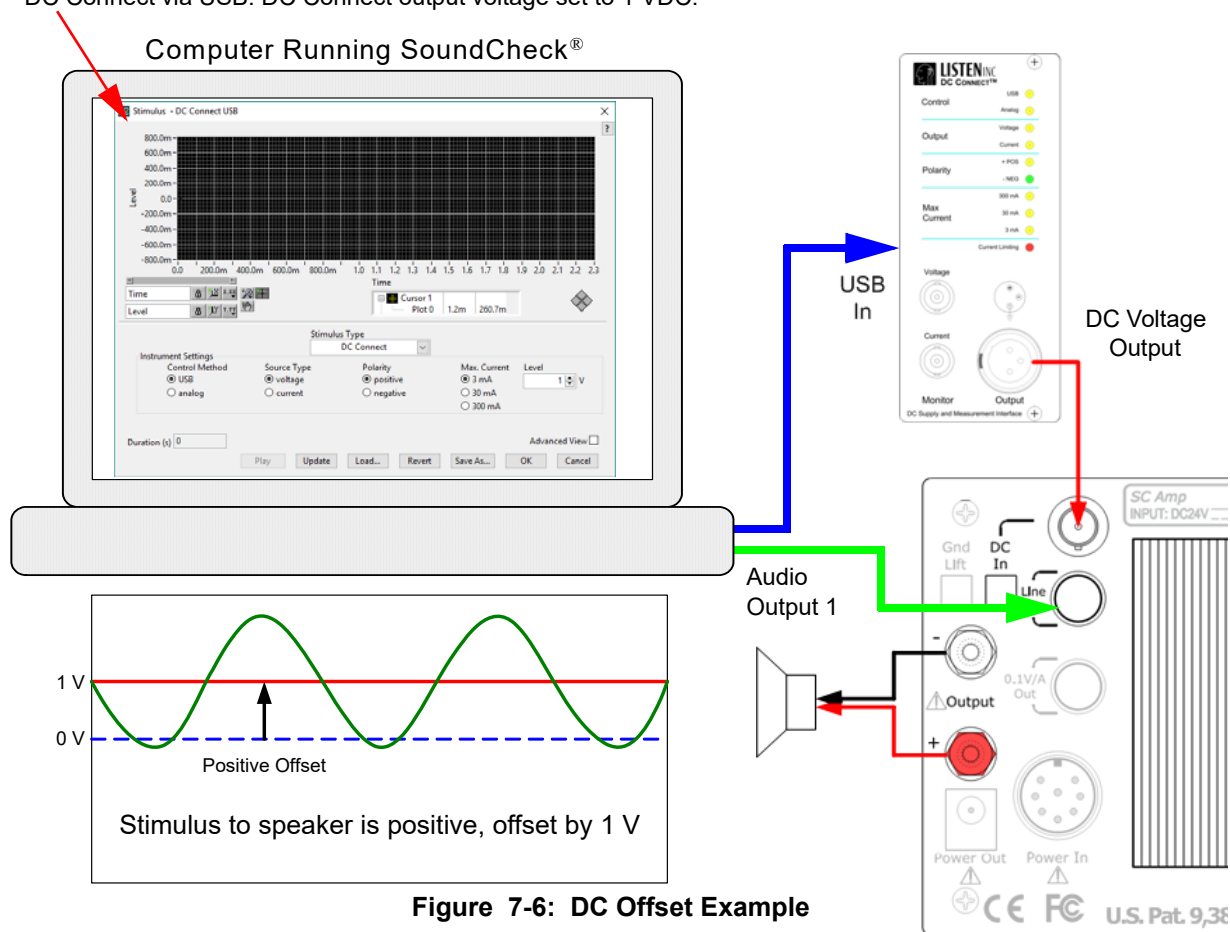

Figure 7-6: DC Offset Example
The example in Figure 7-6 shows SoundCheck controlling Listen's DC Connect in order to supply a DC Offset voltage to SC Amp.
- The sine sweep stimulus from the SoundCheck sequence has a positive offset of 1 V applied to it as show in Figure 7-6.